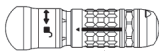

Figure 6
- Hold handpiece firmly in one hand and with other hand push and rotate release sleeve of attachment until arrow is aligned with unlock symbol (Figure 6).
5. Hold handpiece firmly in one hand and with other hand push and rotate release sleeve of attachment until arrow is aligned with unlock symbol (Figure 6).